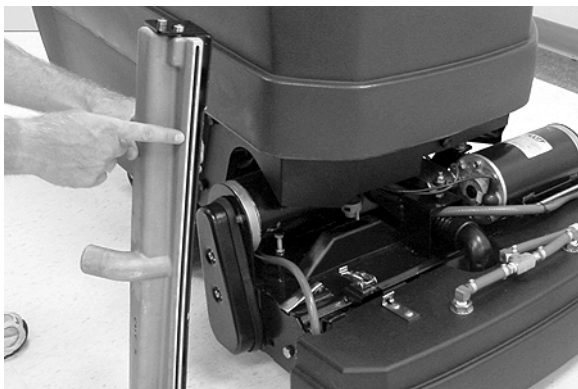

FIG. 34
5. Remove any debris lodged in the carpet extraction vacuum shoe (Figure 34).